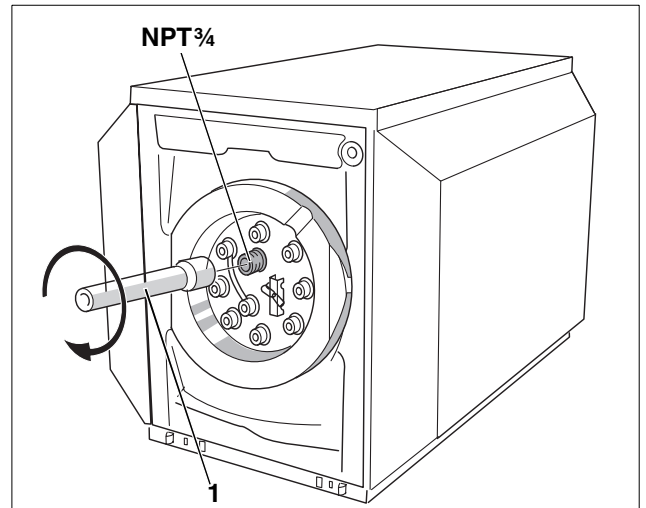

Fig. 6 Assembly of front carrying pipe stub
- Screw a  $\frac{3}{4}$ " coupling on a pipe end (Fig. 6, Item. 1).